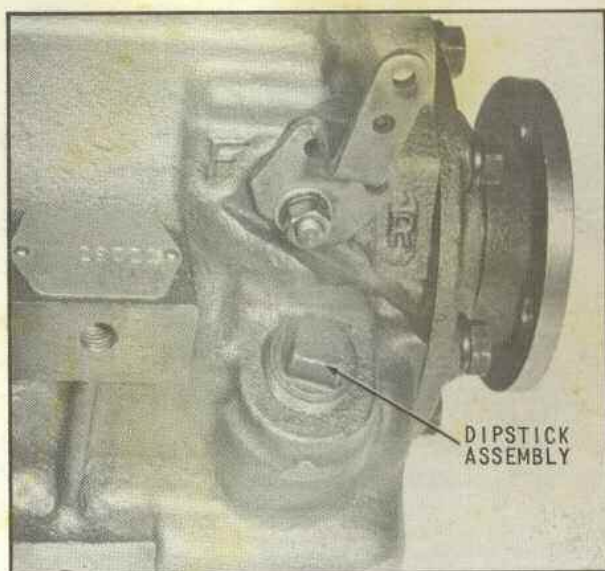

Fig. 79 Installation of Dip Stick Assembly
80. Install the dipstick assembly as shown in (Fig. 79) and tighten to a torque sufficient only to prevent oil leakage (approximately 10-15 pounds-feet).